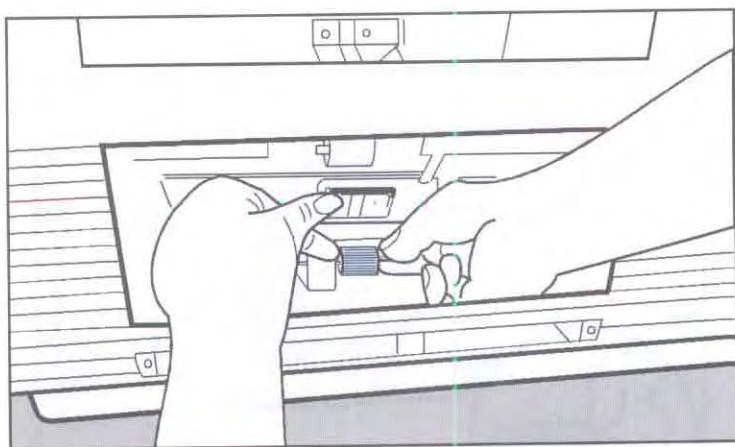

Figure 4-7. Removing the Duplex D-Roller
3. With your left hand, lift the plate located above the roller. With your right hand, pinch the clip on the end of the roller and slide it off to the right. Figure 4-7 shows how to pinch and remove the roller.